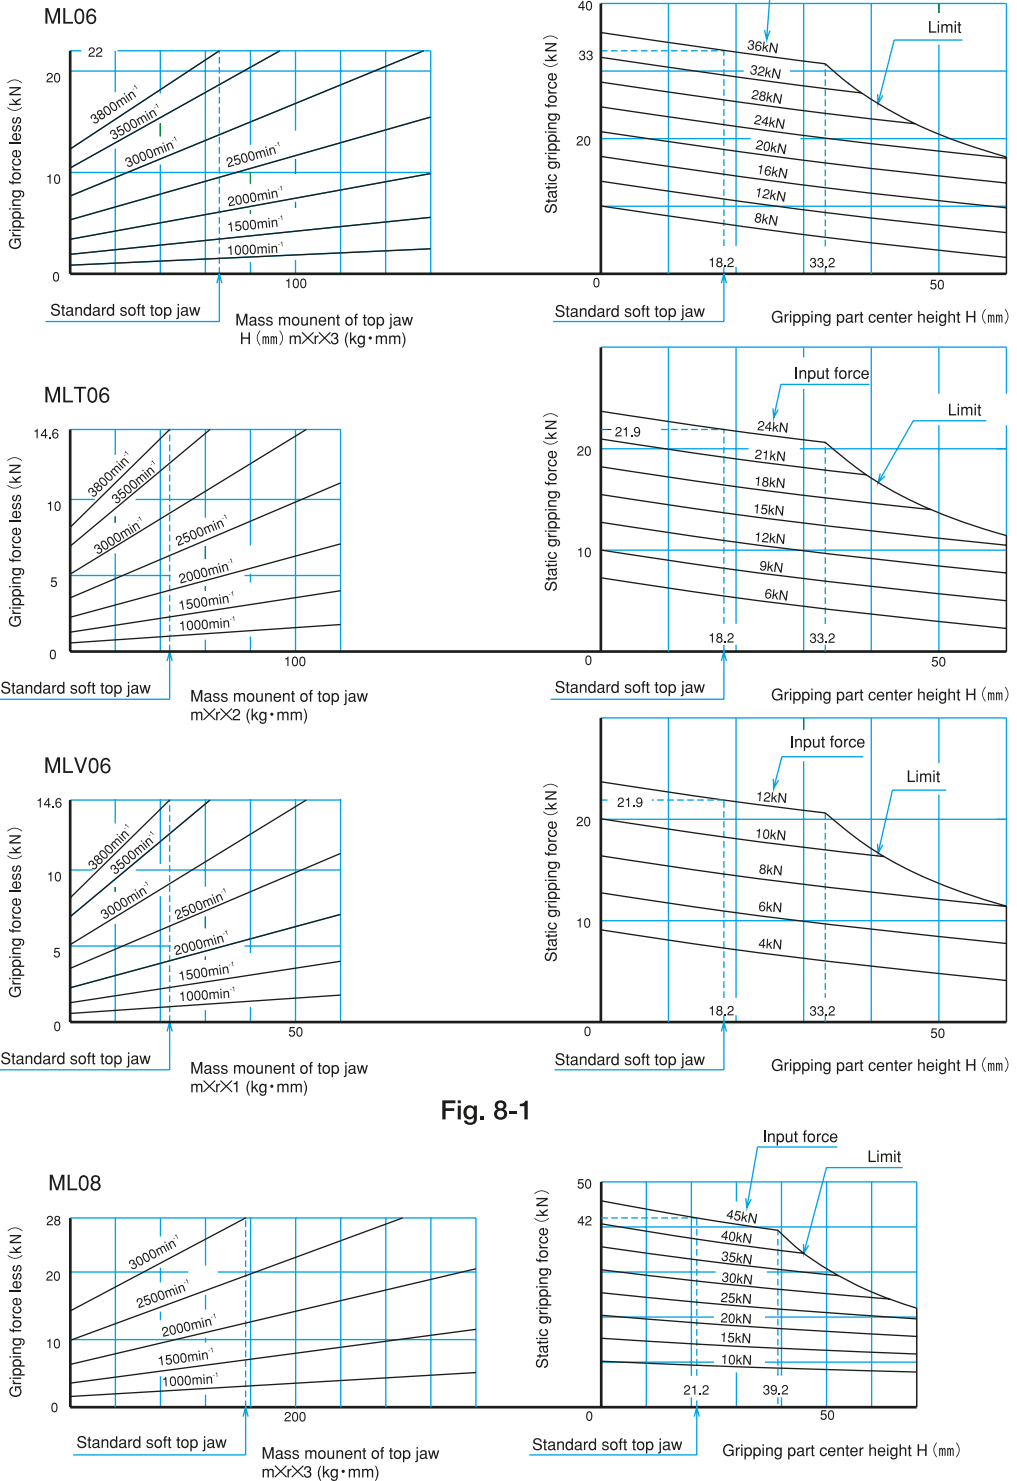

Fig. 8-1
- Keep the height of the top jaw within the range of the gripping force limit table. (Refer to Fig.8-1, 8-2)
Analysis of the gripping force, input force and rotation speed using Fig. 8-1, 8-2 is carried out as shown below.
The required static gripping force and input force required at the rotation speed in use are predicted from Fig.8-1, 8-2, however, it contains a number of hypothetical conditions. Therefore, it is necessary to only use these as reference, and the processing conditions must be determined after trial cutting without fail.